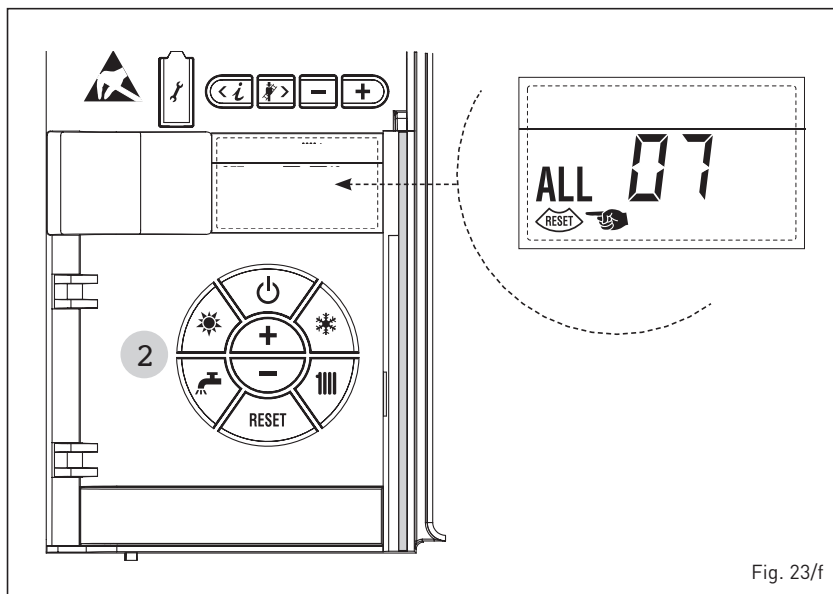

Fig. 23/f
– **FLAME DETECTION ERROR ALARM 08 (fig. 23/g)**